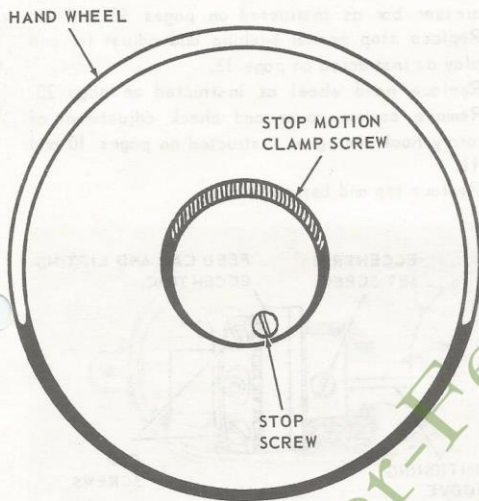

Fig. 46. Removing Hand Wheel
2. Hold hand wheel and loosen stop motion clamp screw, Fig. 46, by turning toward left.
3. Loosen stop screw, Fig. 46, until end clears stop motion washer. Then turn clamp screw toward left and out of the bushing.